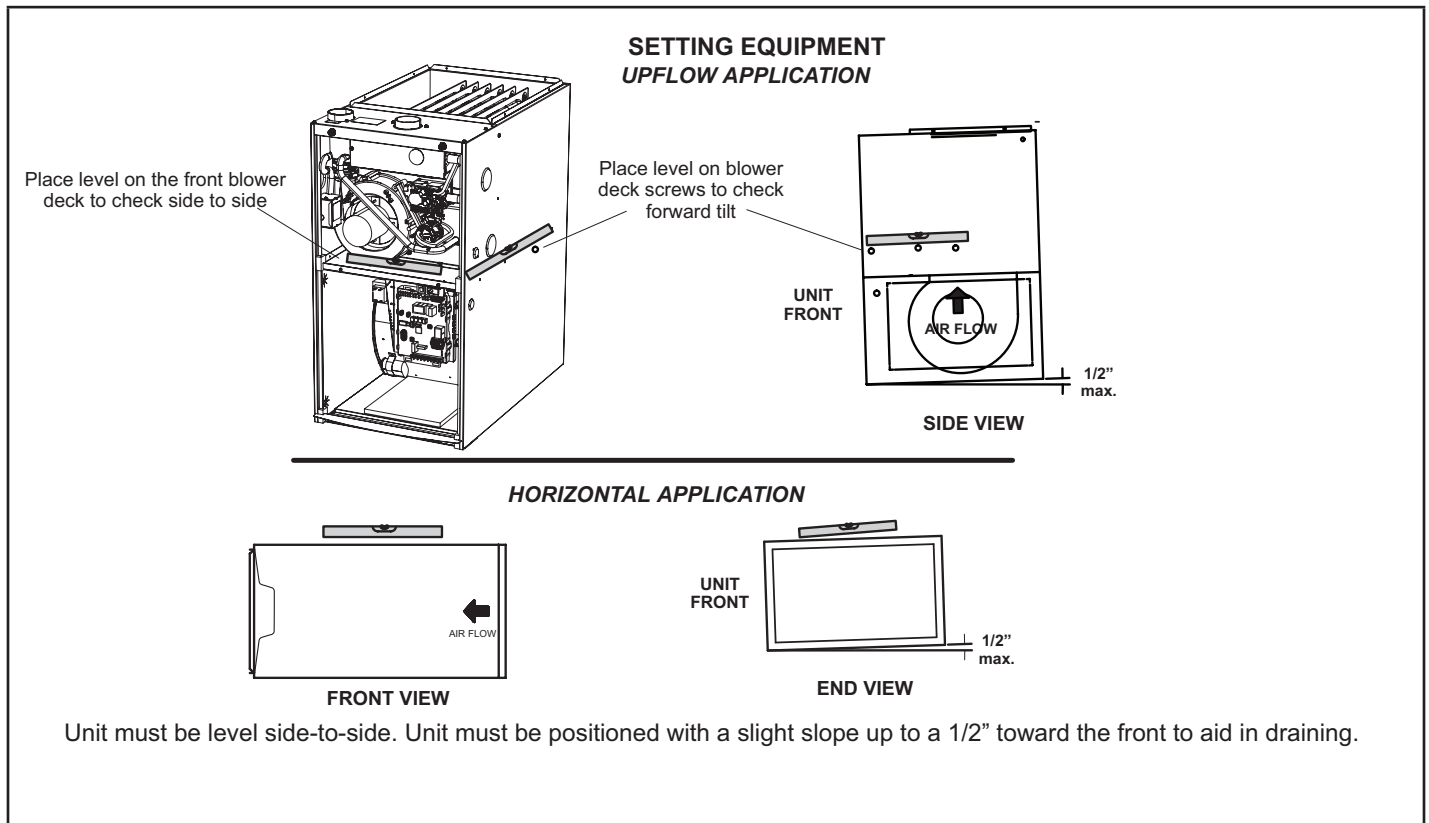
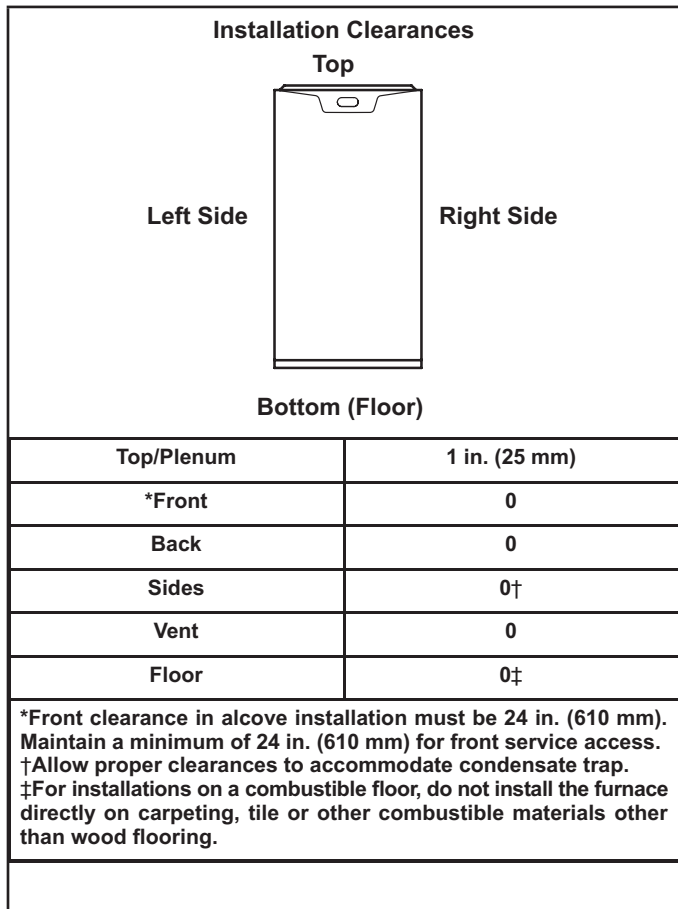
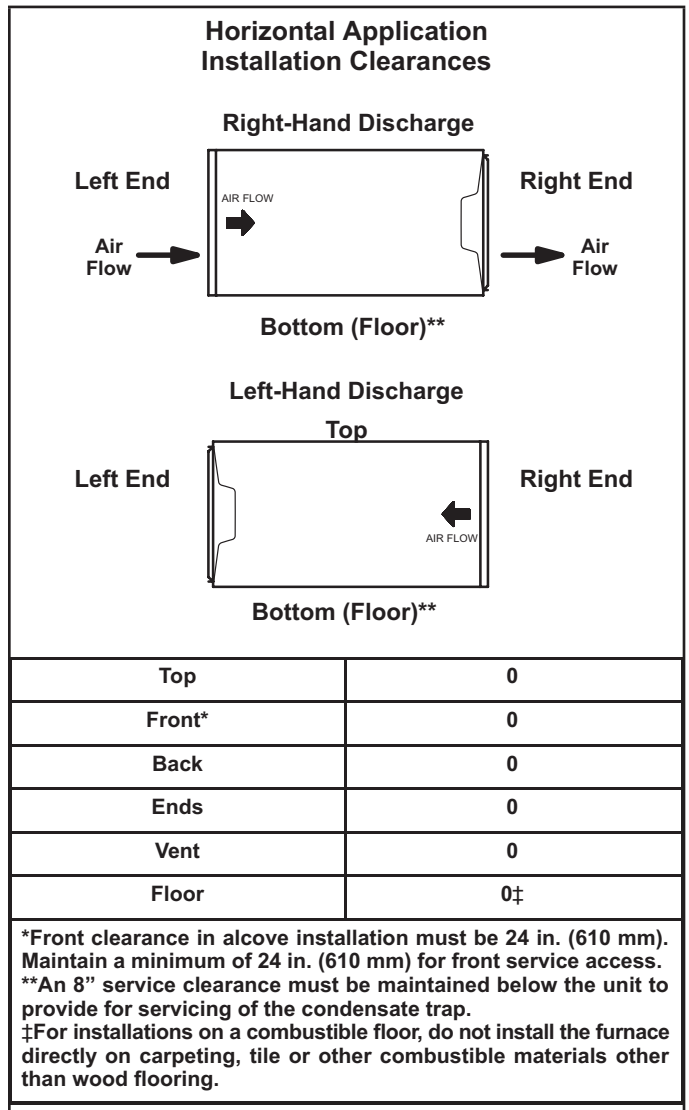

FIGURE 5
FIGURE 10
FIGURE 11
This furnace is designed for installation clearances to combustibles as listed on the unit nameplate and in the tables in FIGURE 10 and FIGURE 11. Accessibility and service clearances must take precedence over fire protection clearances.
The SLP99UHV gas furnace can be installed as shipped in the upflow position. Refer to figure 10 for clearances. Select a location that allows for the required clearances that are listed on the unit nameplate. Also consider gas supply connections, electrical supply, vent connection, condensate trap and drain connections, and installation and service clearances [24 inches (610 mm) at unit front]. ***The unit must be level from side to side. Unit must be positioned with a slight slope up to 1/2" toward the front to aid in draining. See FIGURE 5.***
Allow for clearances to combustible materials as indicated on the unit nameplate. Minimum clearances for closet or alcove installations are shown in FIGURE 10 and FIGURE 11.
The SLP99UHV furnace can be installed in horizontal applications with either right- or left-hand air discharge. Refer to FIGURE 11 for clearances in horizontal applications
- 1 - Select location for unit keeping in mind service and other necessary clearances. See FIGURE 11.